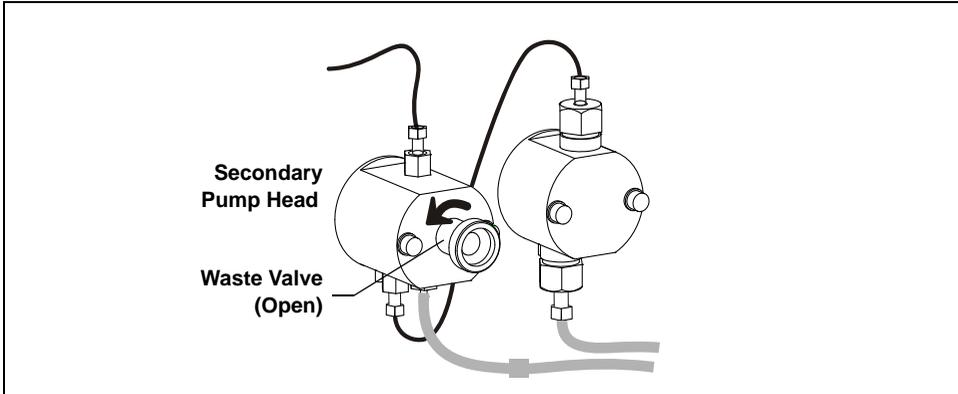

Figure 3-3. Priming the Pump
3. Open the waste valve on the secondary (left) pump head by turning the knob one-half turn counterclockwise (see Figure 3-3). (Opening the valve directs the eluent flow path to waste and eliminates backpressure.)